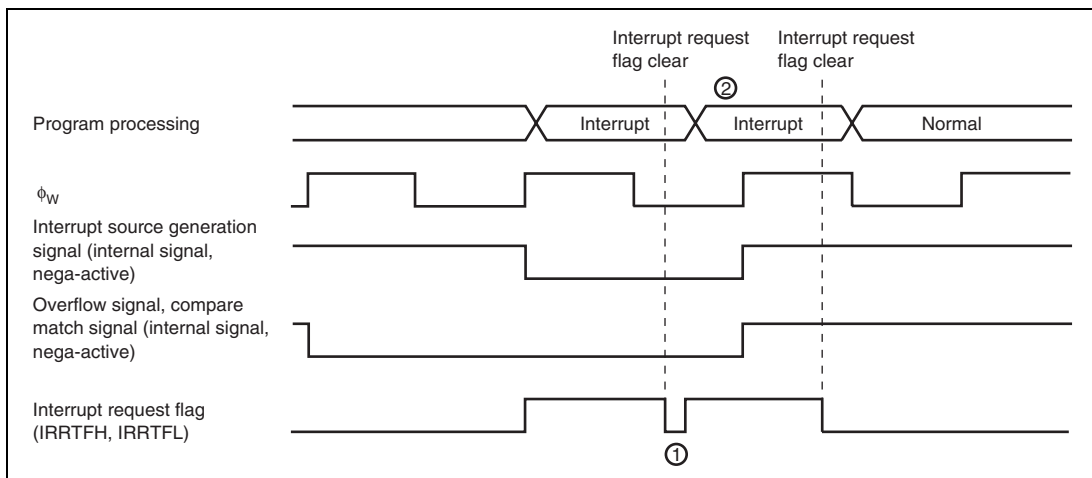

Figure 12.7 Clear Interrupt Request Flag when Interrupt Source Generation Signal is Valid
When the internal clock $\phi_w/4$ is selected as the counter input clock, "Interrupt source generation signal" will be operated with ϕ_w and the signal will be outputted with ϕ_w width. And, "Overflow signal" and "Compare match signal" are controlled with 2 cycles of ϕ_w signals. Those signals are output with 2-cycle width of ϕ_w (figure 12.7)
In active (high-speed, medium-speed) mode, even if you cleared interrupt request flag during the term of validity of "Interrupt source generation signal", same interrupt request flag is set. (1 in figure 12.7) And, the timer overflow flag and compare match flag cannot be cleared during the term of validity of "Overflow signal" and "Compare match signal".
For interrupt request flag is set right after interrupt request is cleared, interrupt process to one time timer FH, timer FL interrupt might be repeated. (2 in figure 12.7) Therefore, to definitely clear interrupt request flag in active (high-speed, medium-speed) mode, clear should be processed after the time that calculated with below (1) formula. And, to definitely clear timer overflow flag and compare match flag, clear should be processed after read timer control status register F (TCSRFF) after the time that calculated with below (1) formula.